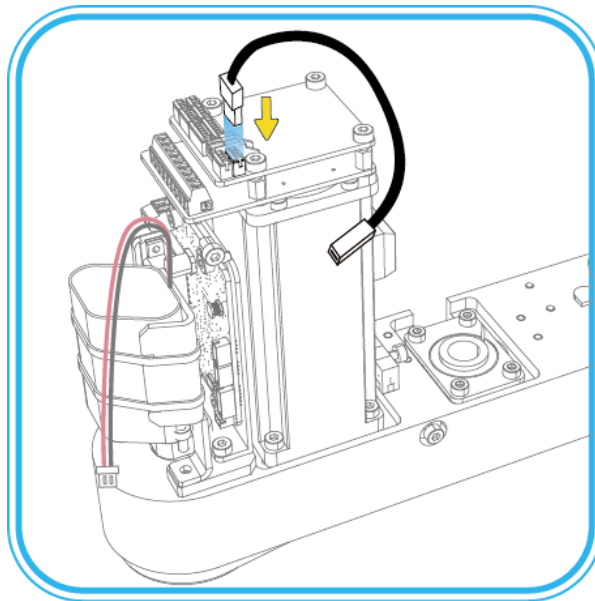

Figure 7.16 Connect the battery adapter cable and the battery interface
9. (Optional) If the battery adapter cable is not connected to the battery interface on the Driver Board, please connect them, as shown in Figure 7.16. If it has been connected, please skip this step.